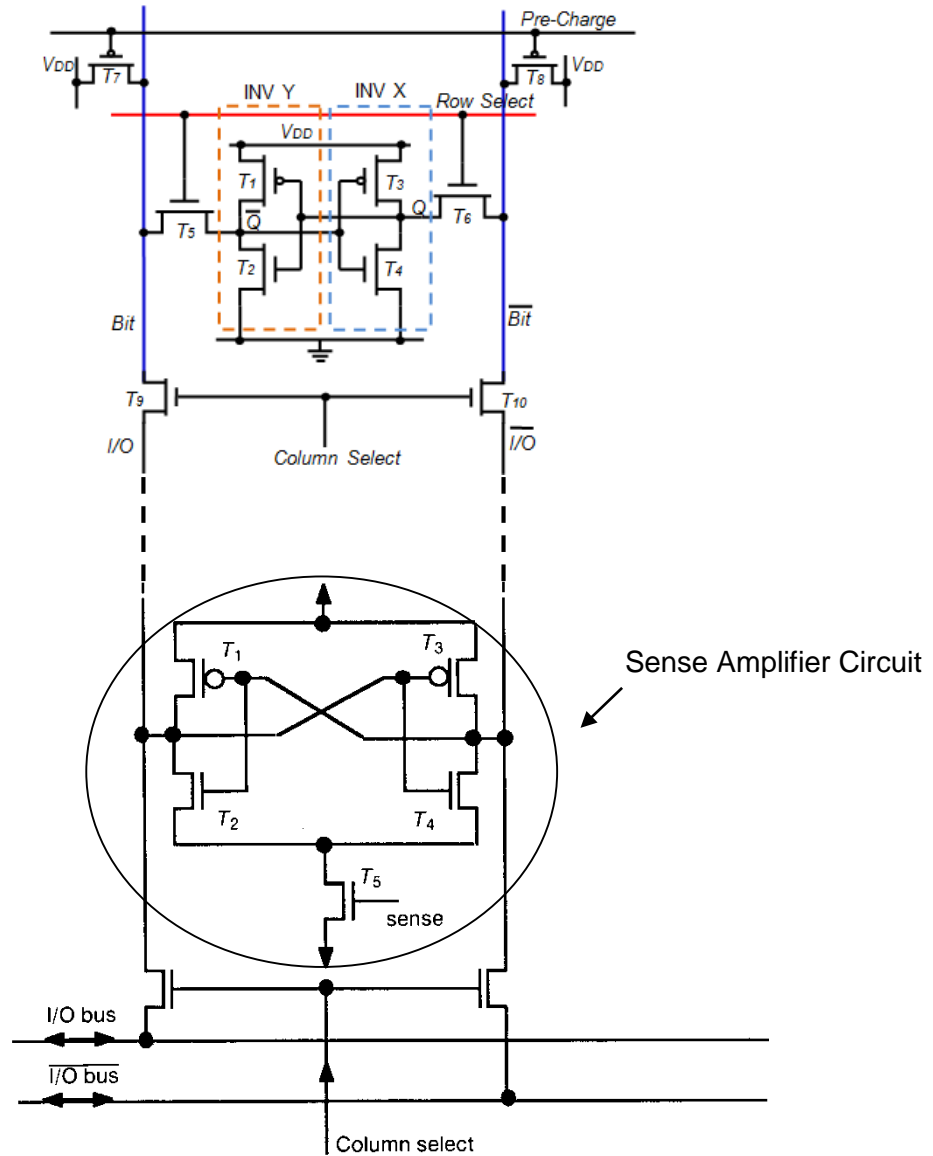

Figure Q5a
- (a) Figure Q5a shows a 6-transistor SRAM. Using the diagram provided,